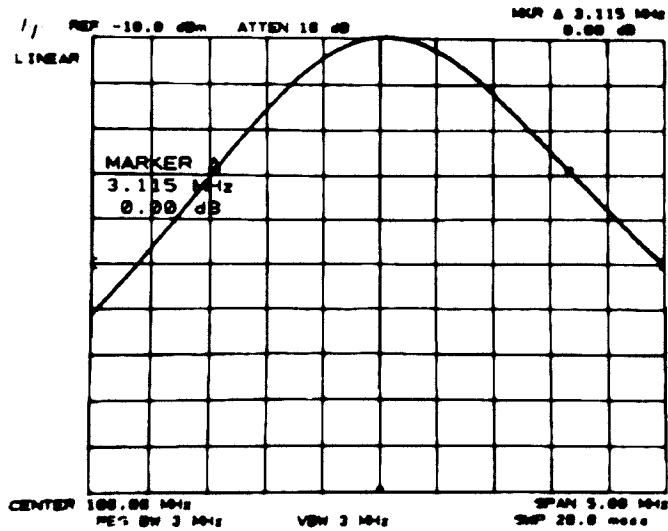

Figure 2-5. Resolution Bandwidth Measurement
7. Press MARKER **Δ** and position movable marker 3 dB down from the signal peak on the negative-going edge of the trace (the MARKER Δ amplitude readout should be $.00 \text{ dB} \pm 0.05 \text{ dB}$). The 3 dB bandwidth is given by the MARKER Δ frequency readout. (See Figure 2-5.) Record this value in Table 2-5.